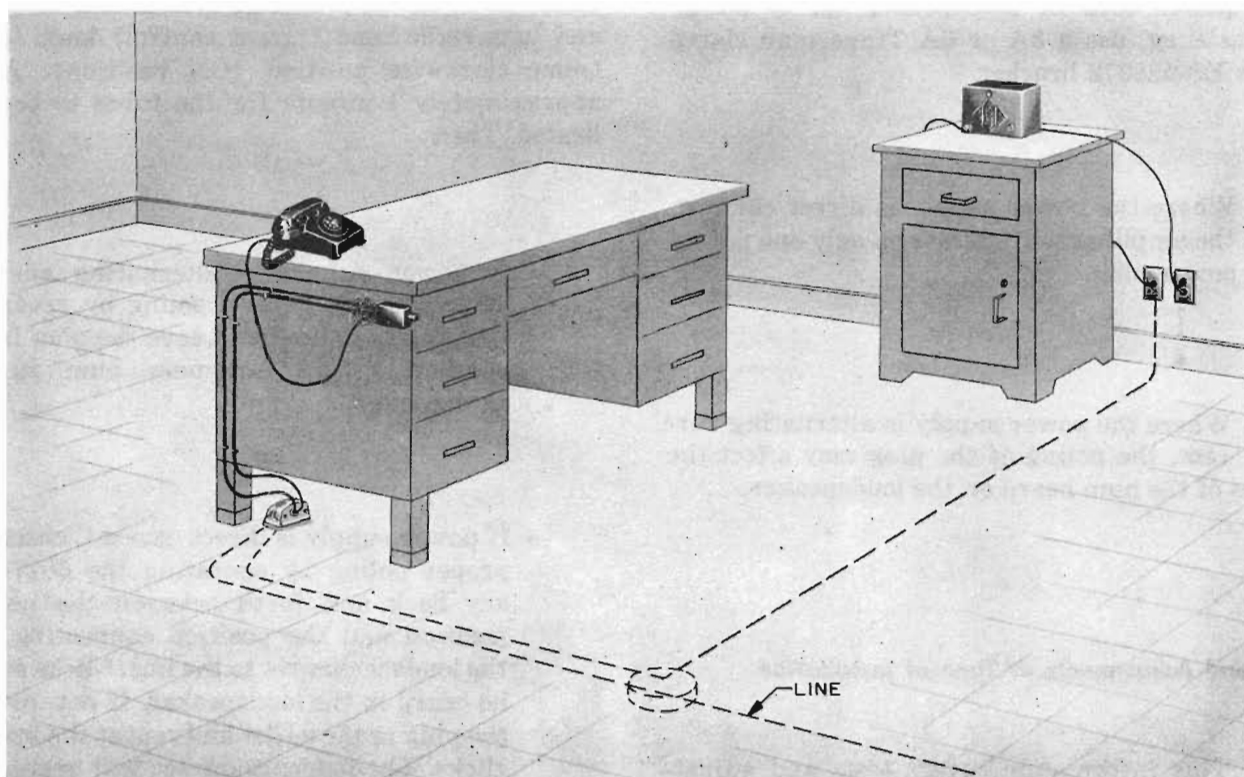

Fig. 1 — 5A Key Equipment Installation
3.01 Fig. 1 and 2 show typical installations of 5A and 5B key equipments, respectively.